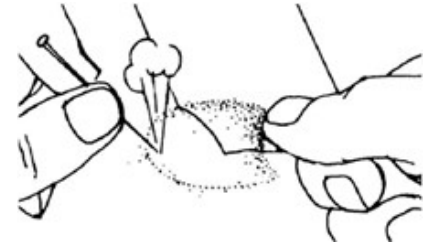

Figure 20. Puncturing an Air Bubble
- b. Use a finger to push the trapped air out toward the puncture. See Figure 20.